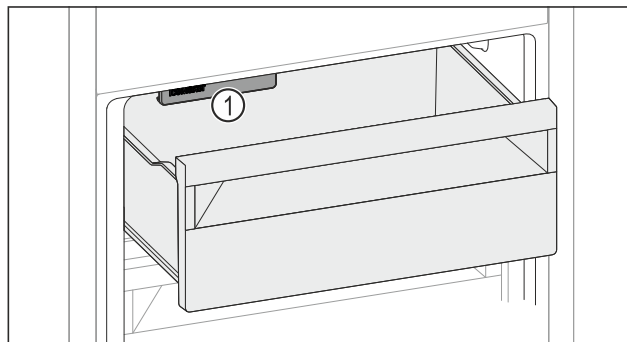

Fig. 158
- ▶ Uzmite u obzir IceMaker Fig. 158 (1).